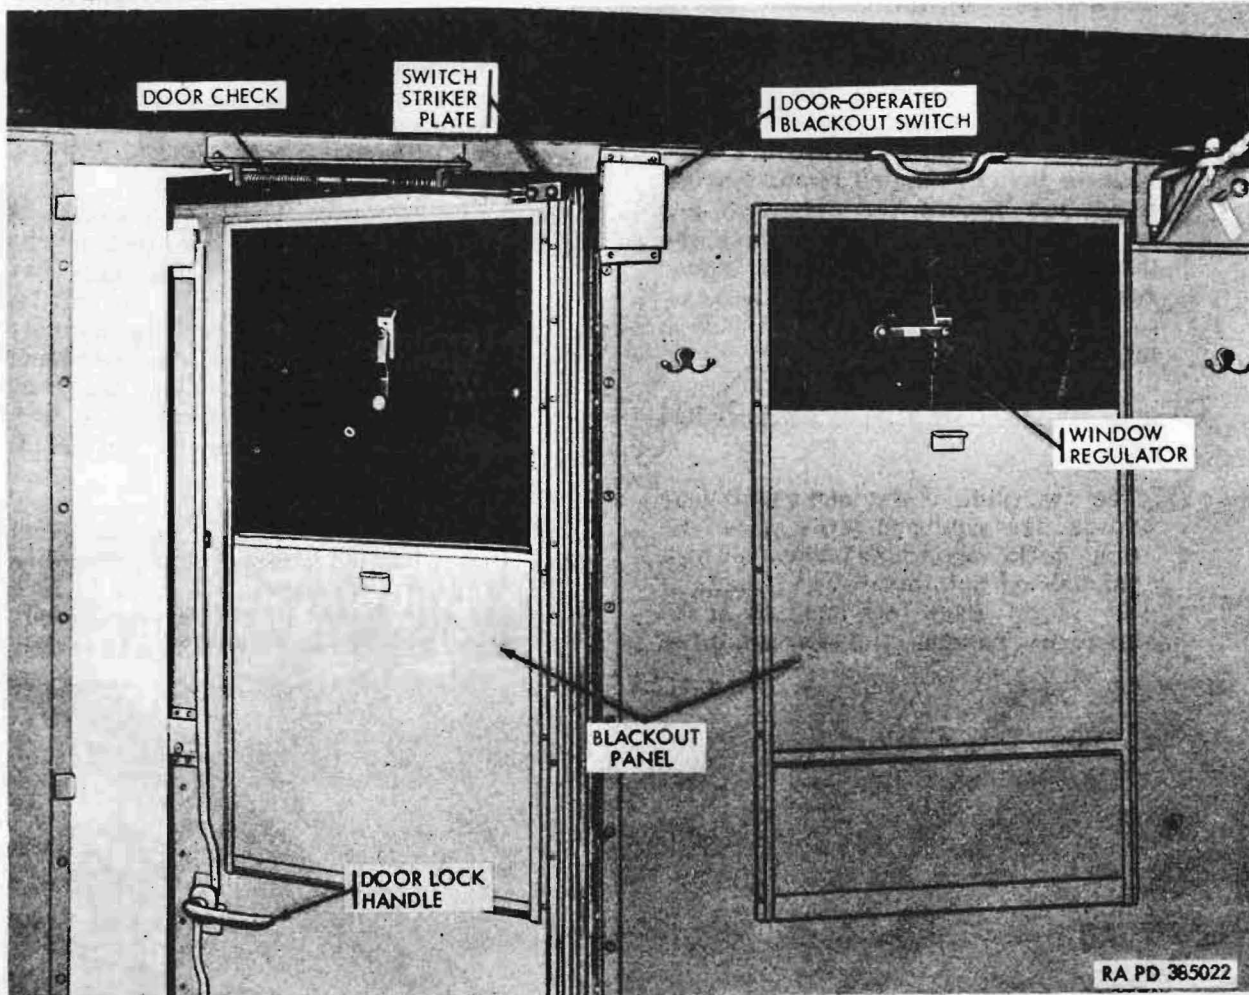

Figure 76. Left side door and window
- (10) Window regulators. The window regulators (fig. 76), located on the center posts of the side window frames, are used to open and close the windows. Each regulator consists of an operating crank, worm and pinion gears, and telescoping lever arm. One end of the arm is fixed to the pinion gear, while the opposite end is attached to the lower edge of the window. When the crank is turned, the lever arm moves in an arc to swing the window inward or outward. To open the window, turn the crank in a clockwise direction. To close the window, turn the crank in a counterclockwise direction.